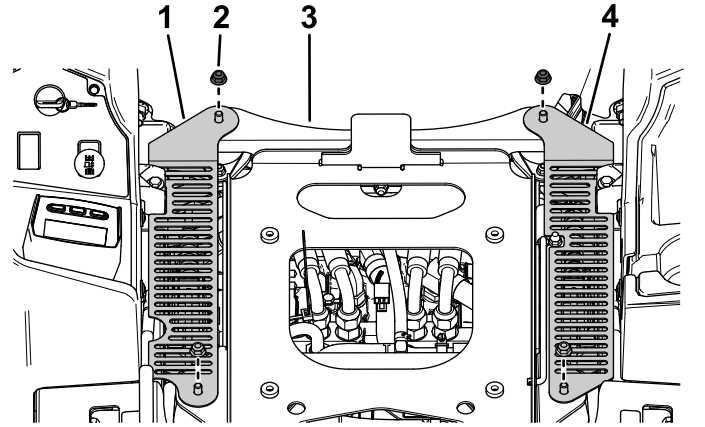

Figure 26
3. Secure the left CE cover and right CE cover to the seat-support plate using the previously removed 4 flange nuts (3/8 inch) as shown in Figure 26.